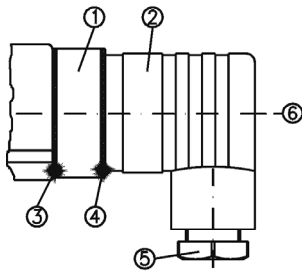

Fig. 1
- Loosen the central screw (pos. 6) M3x35 and disconnect the junction box EN 175301-803-A (pos. 2) from the connector (pos. 1, Fig. 1).